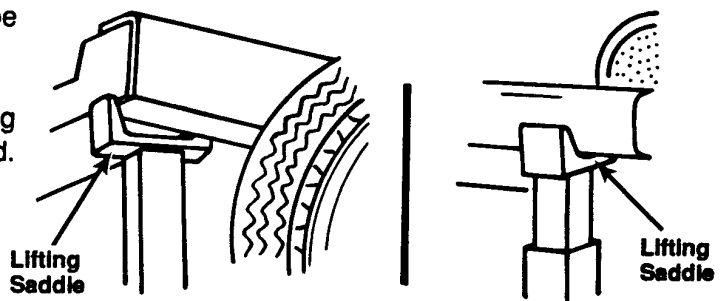

Figure 3
- The Air Lift is only designed to lift from the lifting saddles. The saddles should cradle the lifting point and hook over the frame, bumper, or bed. See Figure 3.
5. Position the lifting saddles to cradle the lifting point and hook over the frame, bumper, or bed. See Figure 3.